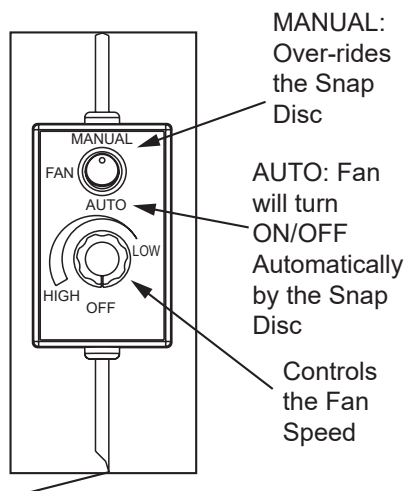

Figure 14.2
2. The blower is equipped with a speed control. Adjust the fan speed by turning the speed control clockwise to "Low" or counterclockwise to "High" (Figure 14.2).